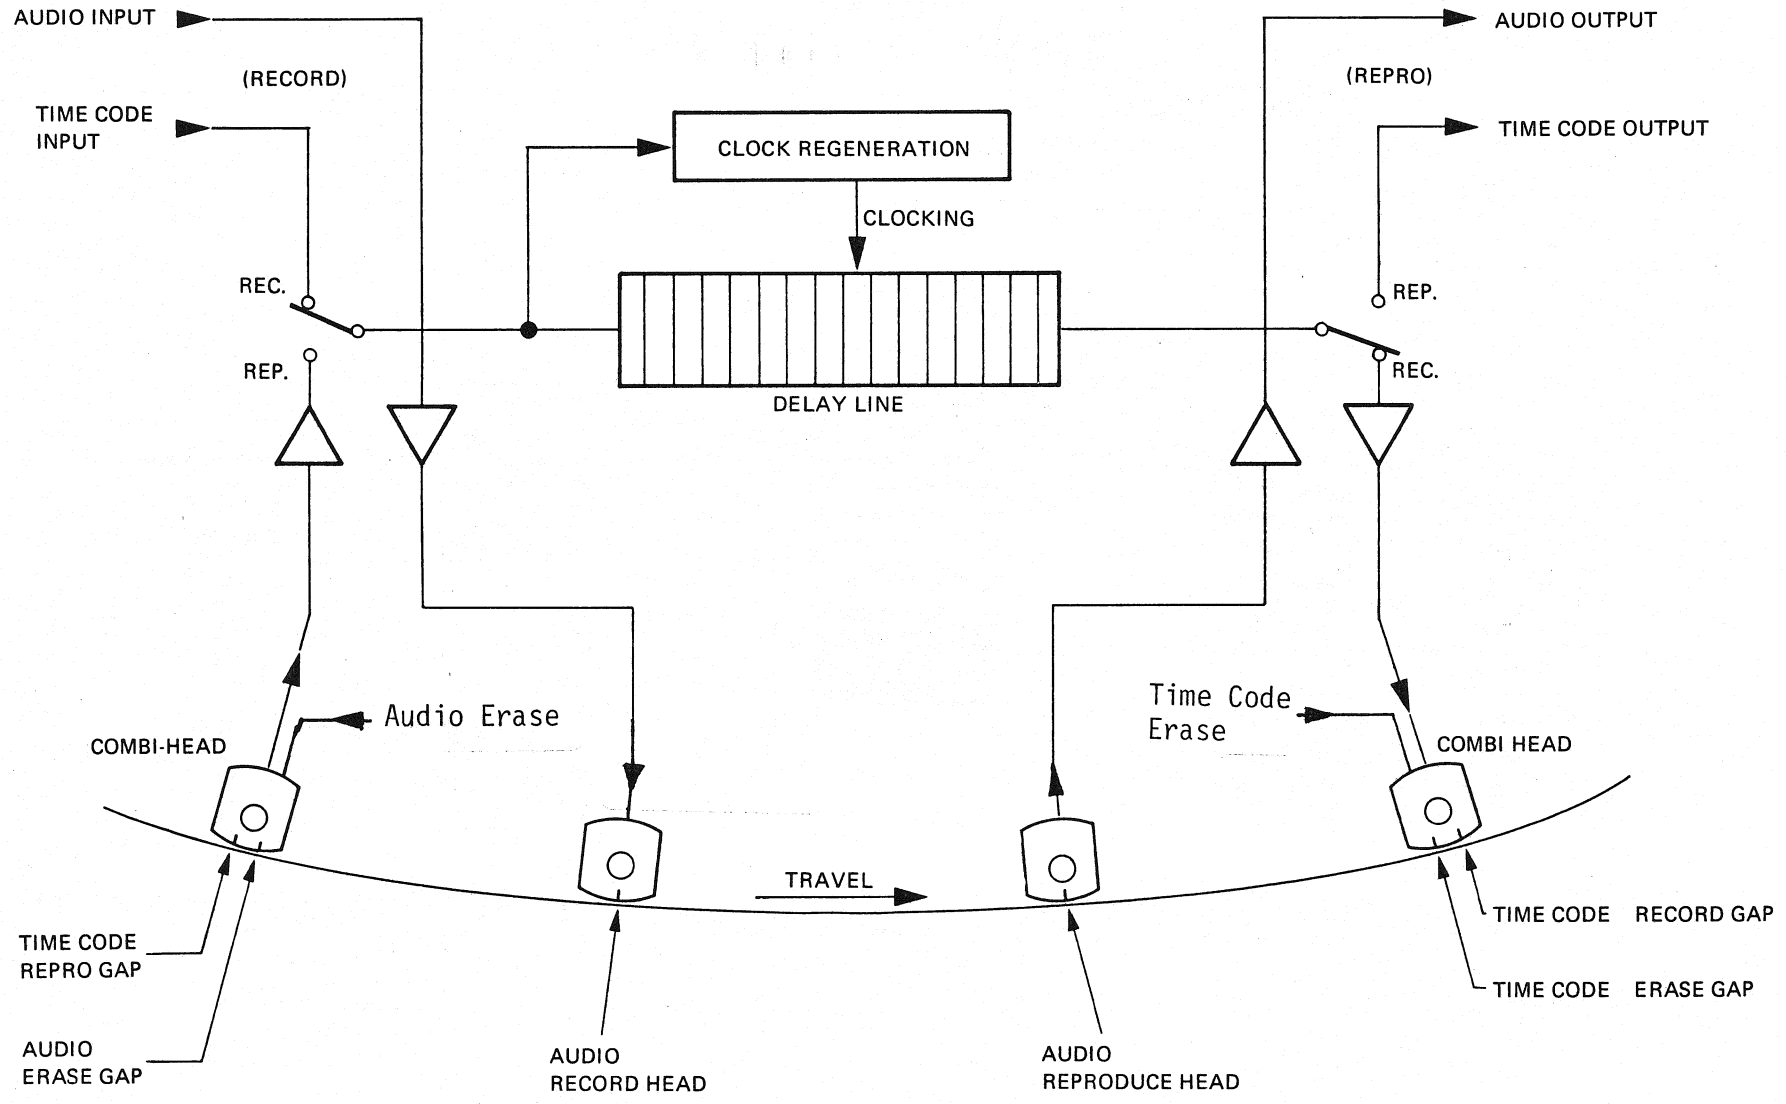

FIG 5
- On Figure 5 a solution proposed by STUDER is depicted.